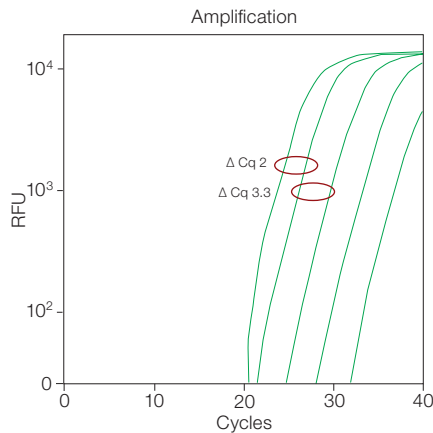

Fig. 10. Presence of PCR inhibition at the highest dilution point, as indicated by delayed amplification.
3. If the most concentrated sample in the dilution series is showing compression, as seen in Figure 10, where the tenfold dilution series ΔCq value is < 3.3 compared to the more diluted points, then PCR inhibitors are most likely present in the sample. However, compression may also be due to an overloaded amount of template, error in the dilution series, or pipetting error.